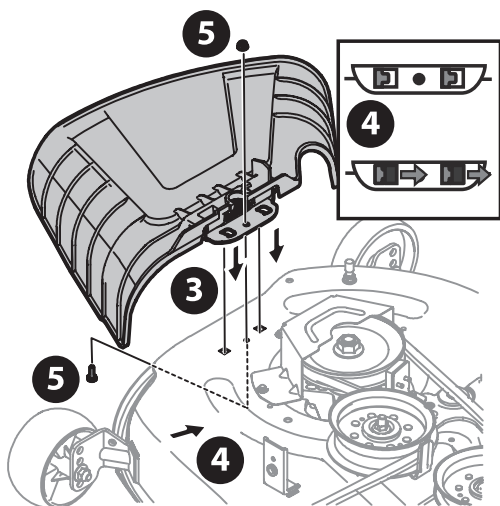

Figure 7
3. Place the chute deflector on the deck, be sure to insert the tabs on the chute deflector into the holes on the deck (Figure 7).
4. Slide the chute deflector toward the rear of the tractor until the bolt hole in the chute deflector aligns with the hole in the deck (Figure 7).
5. Secure the chute deflector in place with the flange lock nut and hex screw removed in Step 2. Tighten to 102-124 in-lbs (12-14 N-m) (Figure 7). Skip ahead to Setting the Deck Wheels (If equipped).